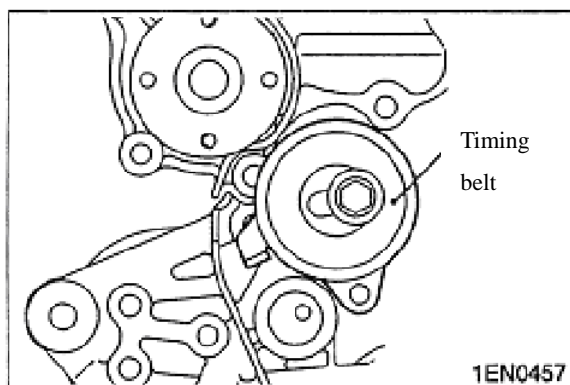

Fig.4-11.
(2) INSTALLATION OF TENSIONER SPRING/TIMING BELT TENSIONER
- a Lock the timing belt tensioner in the illustrated position, see Fig.4-11.